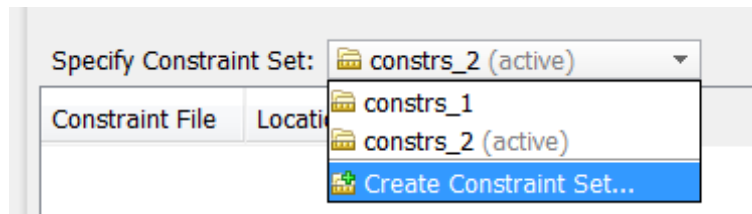

Figure 8: Create Constraint Set Drop-Down Menu
3. From the Add or Create Constraints dialog box, use the Specify Constraint Set drop-down menu to select **Create Constraint Set** as shown in Figure 8.